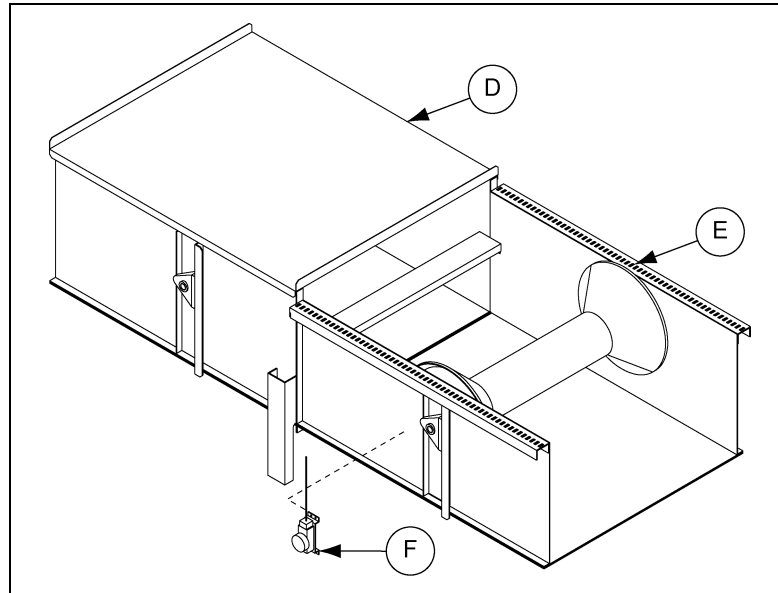

Figure 4X Limit Switch Location
Two (2) limit switches will need to be installed at the beginning and end of the travelable plow sections (E). Figure 4X demonstrates how the limit switch and supplied mounting bracket need to be field located and attached to the side of the conveyor. Typical mounting locations include either the side panel or the bearing bracket.